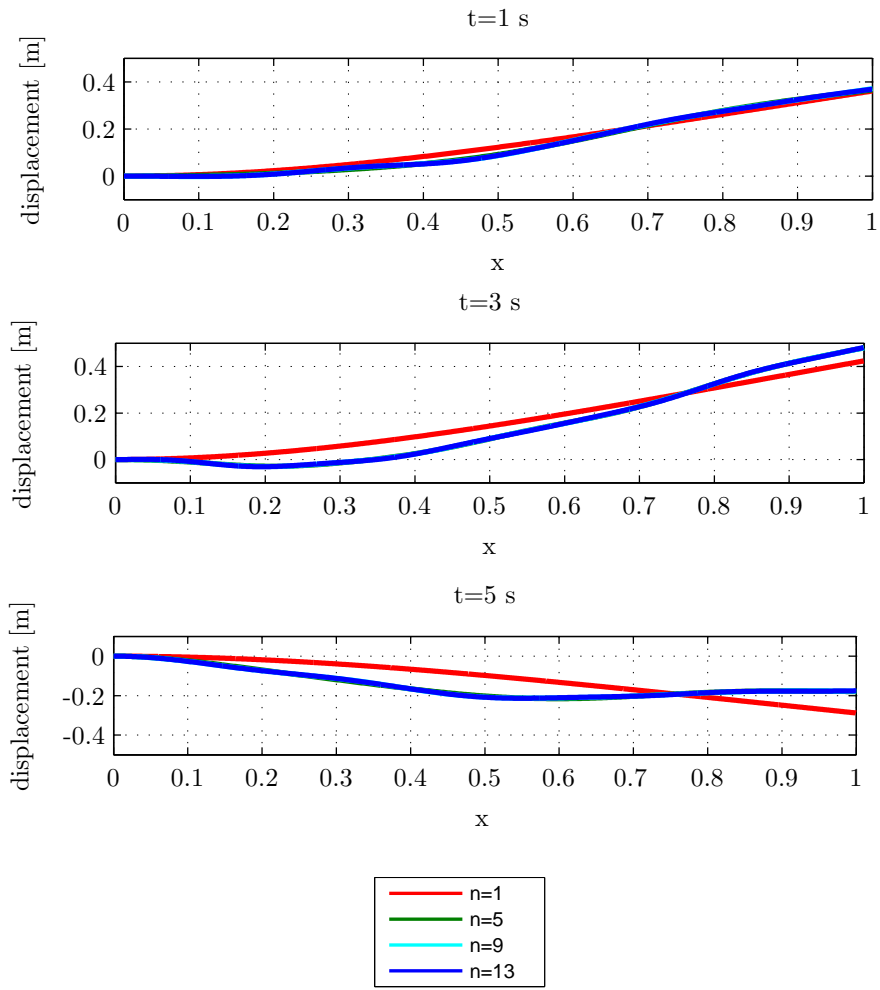

Figure 6: Plot of cantilever beam for  $t=1$ ,  $t=3$  and  $t=5$  s.
Equation (14) with eqs. (8) to (9) completely describes the forced response of the beam. Time evolution of the system requires to combine multiple modes together, therefore, it will change its behavior as more modes are added into the solution. Usually maximum number of modes that are required for an accurate solution is found by tracking the convergence of the solution while changing included number of modes. Plots of the time evolution of the beam at  $t=1, 3, 5$  s using different number of modes is given in fig. 6.